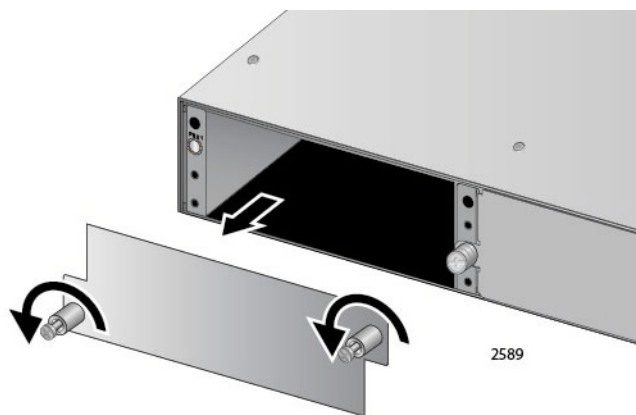

Figure 24. Loosen Power Supply Captive Screws
2. Loosen the captive screw on the blank cover panel of the power supply slot blank cover and remove the cover. See Figure 24.